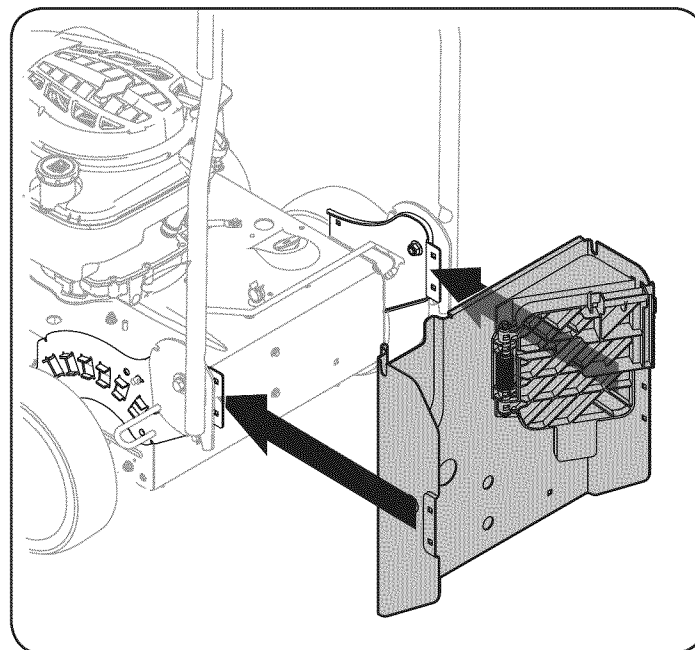

Figure 3
2. Slide grass bagger support bracket (ref. part #9) onto the back of the mower frame with the bracket side extensions facing backward, and its rear discharge door positioned in the upper right corner. See Figure 3.
3. Line the two holes on each side of rear support bracket with holes in the mower side plates. See Figure 3.